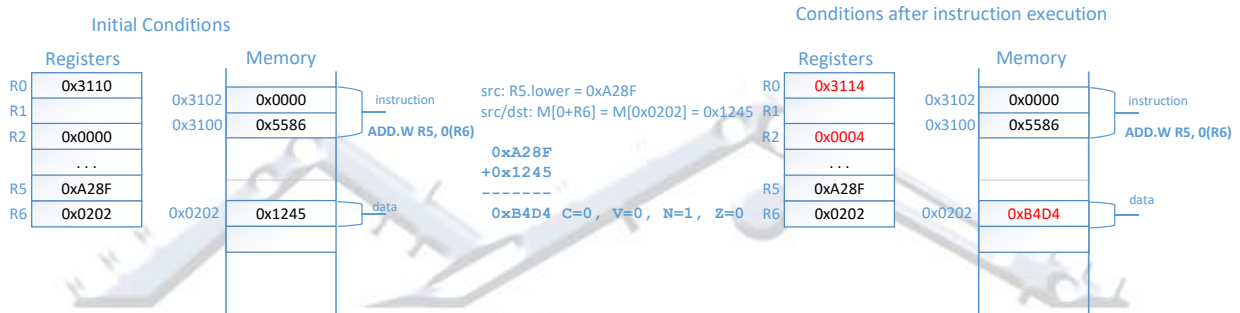

Figure 6. Examples of a byte and a word register-memory instruction.
Figure 6, top illustrates the content of relevant registers and memory locations before and after the instruction execution. The suffix .B indicates that the operation should be performed on byte-size operands. This instruction specifies that the *src* operand is the register R5 (lower 8 bits of R5), and the *src/dest* operand is in memory at the address (R6+1). Thus, a lower byte from the register R5, 0x8F, is added to the byte read from the memory location M[0x0203]=0x12, and the result is written back to memory, so the new value of the memory location at the address 0x0203 is M[0x0203]=0xA1. The content of the register R5 remains intact. You will notice that a side effect of this instruction is a new value in register R2 (SR) - the result is a negative, so the N bit is set.
Figure 6, bottom illustrates the content of relevant registers and memory locations before and after the instruction execution. The source operand is the content of register R5, which is 0xA28F. The source/destination operand is the word from memory location R6+0=0x0202,